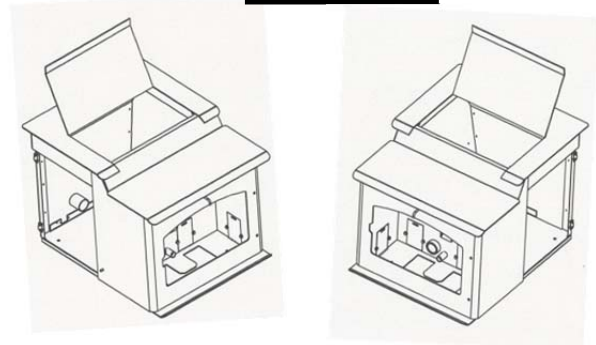

FIGURE 25
- Scrape ash bin into the pedestal ash bin through the opening in the bottom of the firebox or vacuum to remove ashes (see Figure 25).